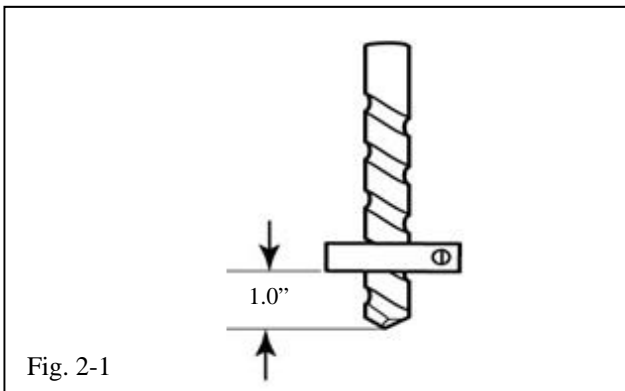

Fig. 2-1
- (a) Set all drill stops to 1.0" (Fig. 2-1).